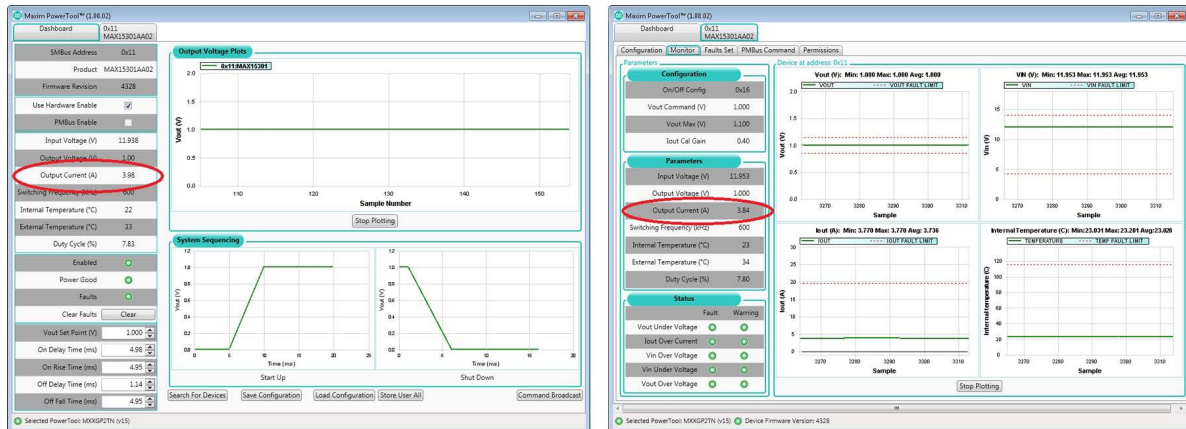

Figure 4. Location of monitored IOUT.
4. Enter the load current value, as measured by the current meter in the Excel spreadsheet's **Actual IOUT (A)** measurement column.
5. Enter the load current value displayed in the GUI in the Excel spreadsheet's **Monitored IOUT (A)** measurement column.
The current value is displayed in two places in the GUI (**Figure 4**). The first is the **Output Current (A)** on the **Dashboard** tab and the second is the **Read IOUT (A)** on the **Monitor** tab. These values are identical. Note that the monitored output current constantly changes due to both differences in load currents and noise introduced into the measurement. Try to enter an averaged value of the load current.